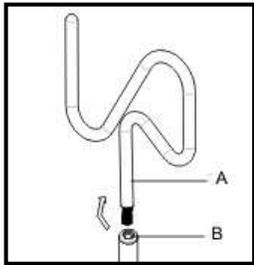

Fig. 1
1. First attach the garment hook to the garment rod by screwing the garment hook (marked A) into the garment rod extension (marked B). (See fig. 1)